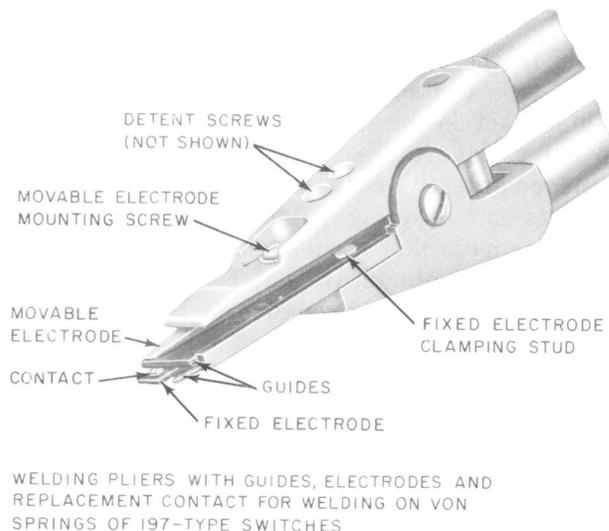

Fig. 4—577A and 577B Welding Pliers
3.15 Fixed Electrode: Fig. 4—To replace a fixed electrode, compress the handles of the welding pliers to open the jaws. Loosen the clamping stud carefully by turning it in a clockwise direction with the 3-inch C screwdriver just enough to permit the electrode to be removed. Place the slotted end of the replacing electrode in position so the electrode positioning stud on the pliers fits into the slot on the electrode, and then push the electrode toward the back of the pliers as far as the stud permits. Turn the clamping stud in a counterclockwise direction until the electrode is held securely.
3.16 Movable Electrode: Fig. 4—To replace a movable electrode, first remove the fixed
For welding contacts on the movable springs, the S guide is placed on the outside of the fixed electrode and the T guide on the inside facing the movable electrode as shown in Fig. 4. For welding contacts on stationary springs, the two guides are interchanged.
3.19 Center the movable electrode. Check whether the detent screws (see Fig. 4) are properly positioned for limiting the movement of the movable electrode to match the contact locating slots in